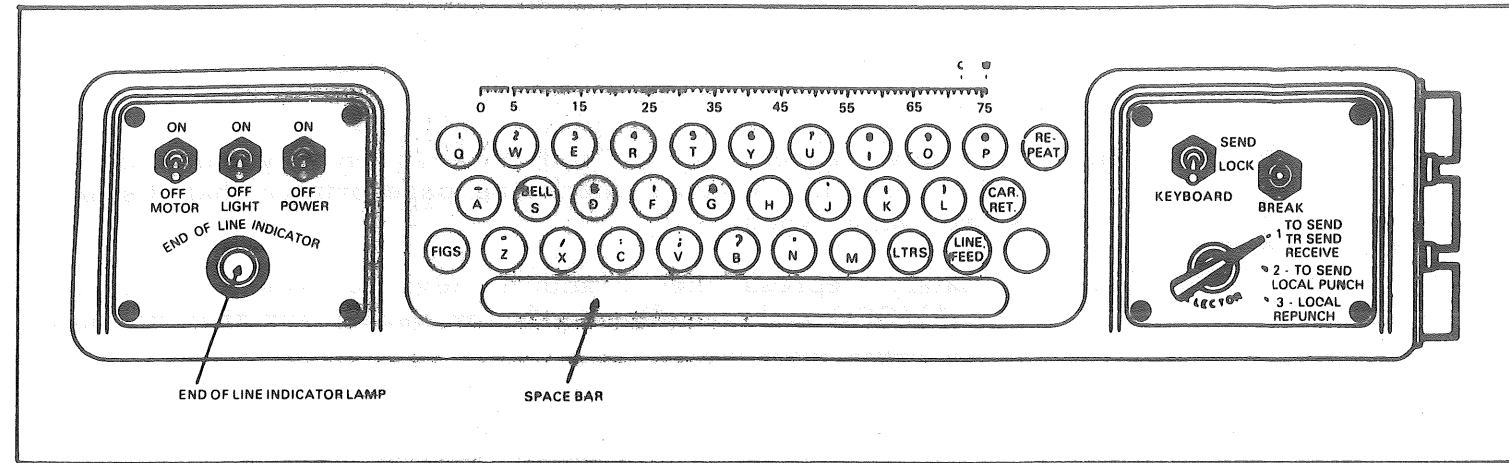

Figure 1. TT-98(*)/FG Keyboard.
3. Check out Radio System (AN/GRC-106(*)). (Refer to TM 11-5815-334-12, chap 5, sec II, para 5-6, p 5-7, item 9 thru 12.)
- a. Place MOTOR and LIGHT switches to ON and SEND/LOCK (fig 1) or SEND/REC switch to SEND on TT-98(*)/FG (fig 1).